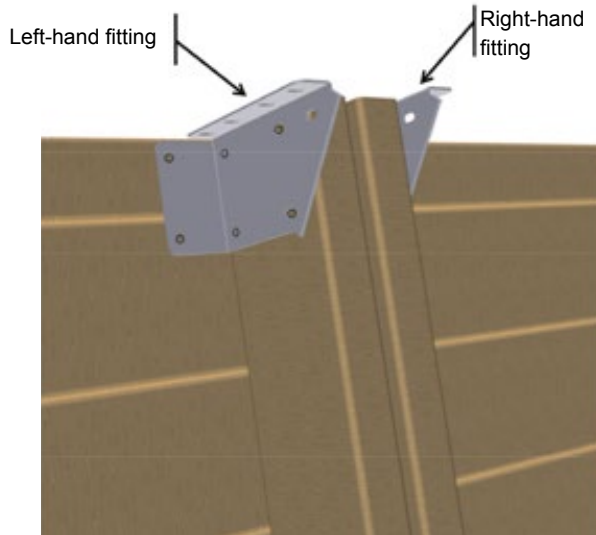

Figure 17 – Mounting the fittings on top of the supporting brace
- On top of each of the 4 supporting braces, place a 'right-hand' fitting and a 'left-hand' fitting from the 'Fastening elements' kit as shown in Figure 17. Use 6 hinge screws 6 × 20 in A2 SS (bag G) per fitting, that is a total of 48 screws.